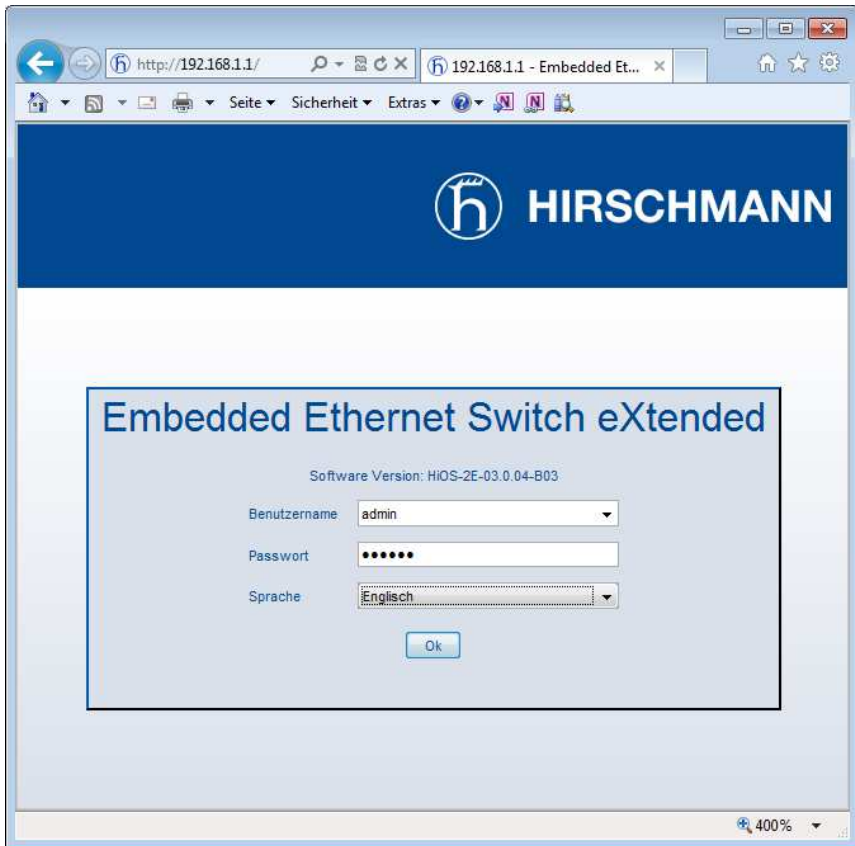

Figure 2-1: Login window
- Establish a connection to the EESX module by entering the IP address in the following form: `http://192.168.1.1`. The Web login window in Figure 2-1 will be displayed.